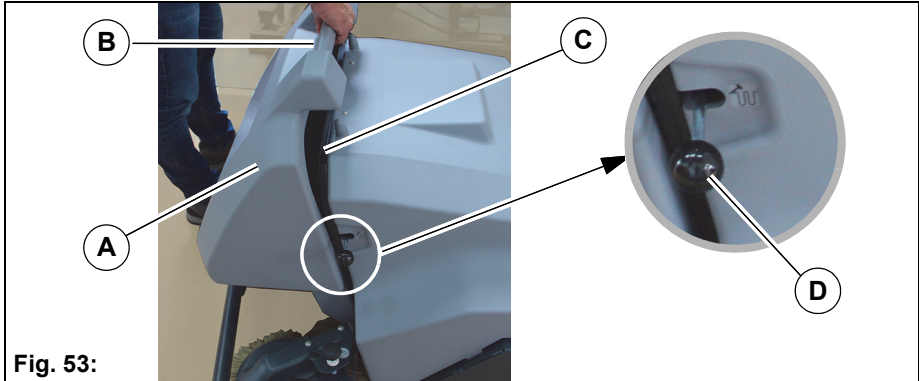
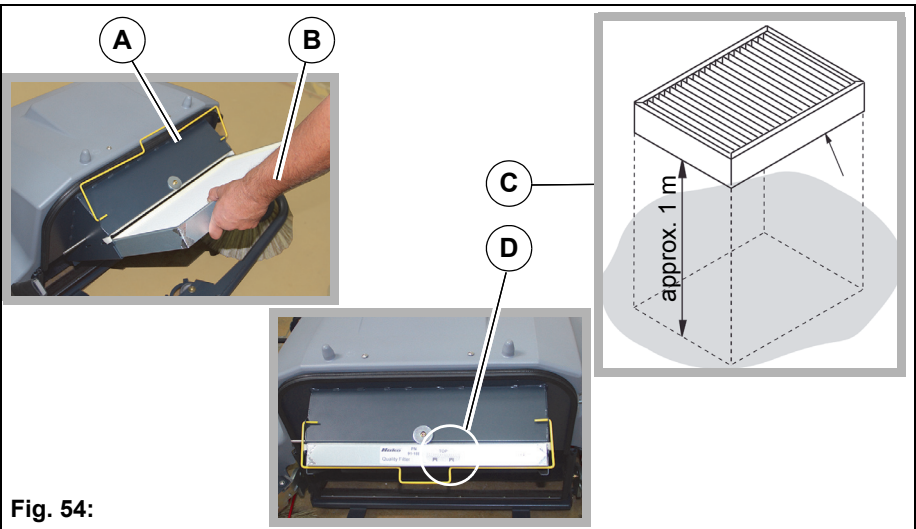

Fig. 53:
Fig. 54:
2. Pull the dirt hopper **Fig. 53-A** upwards using the handle **Fig. 53-B** and dispose of the contents in an environmentally friendly way.
Inspect the dirt hopper seal **Fig. 53-C** weekly and replace if wear is present.
Clean the filter **Fig. 54-B** several times per day using the shaking system **Fig. 53-D**.
2. Swivel the yellow handle **Fig. 54-A** upwards and pull the filter **Fig. 54-B** out of the frame.
The dirty side must be facing the floor **Fig. 54-C**!
2. Remove the dirt hopper **Fig. 53-A**.